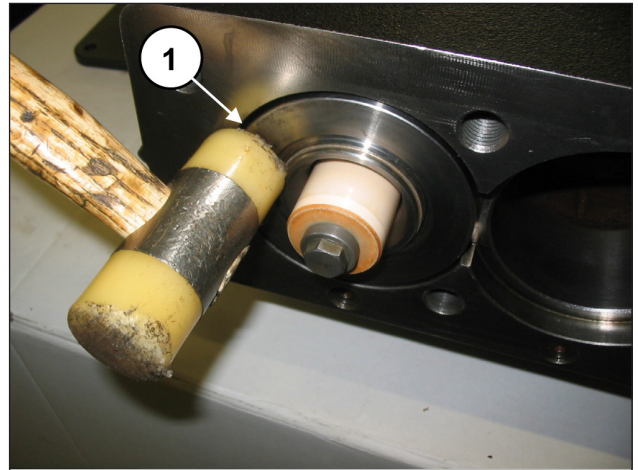

Fig. 160
Ensure that the liner-support block is positioned correctly down to the bottom of the housing (pos. ①, Fig. 160).